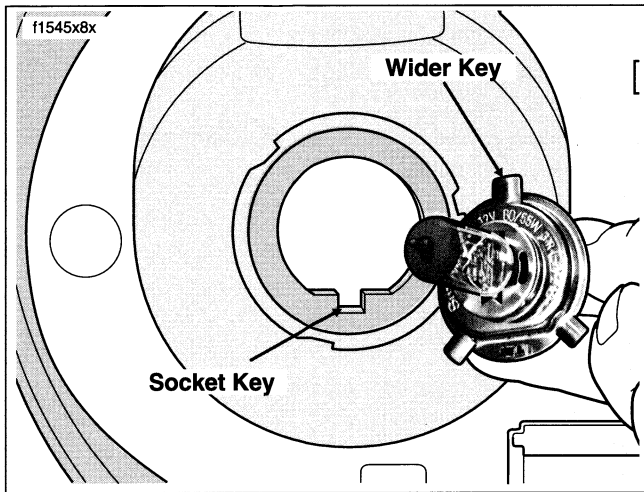

Figure 79. Lamp Housing
9. See Figure 79. Install keyed bulb socket into headlamp assembly.
10. Install retainer and turn clockwise (CW) to lock in place.